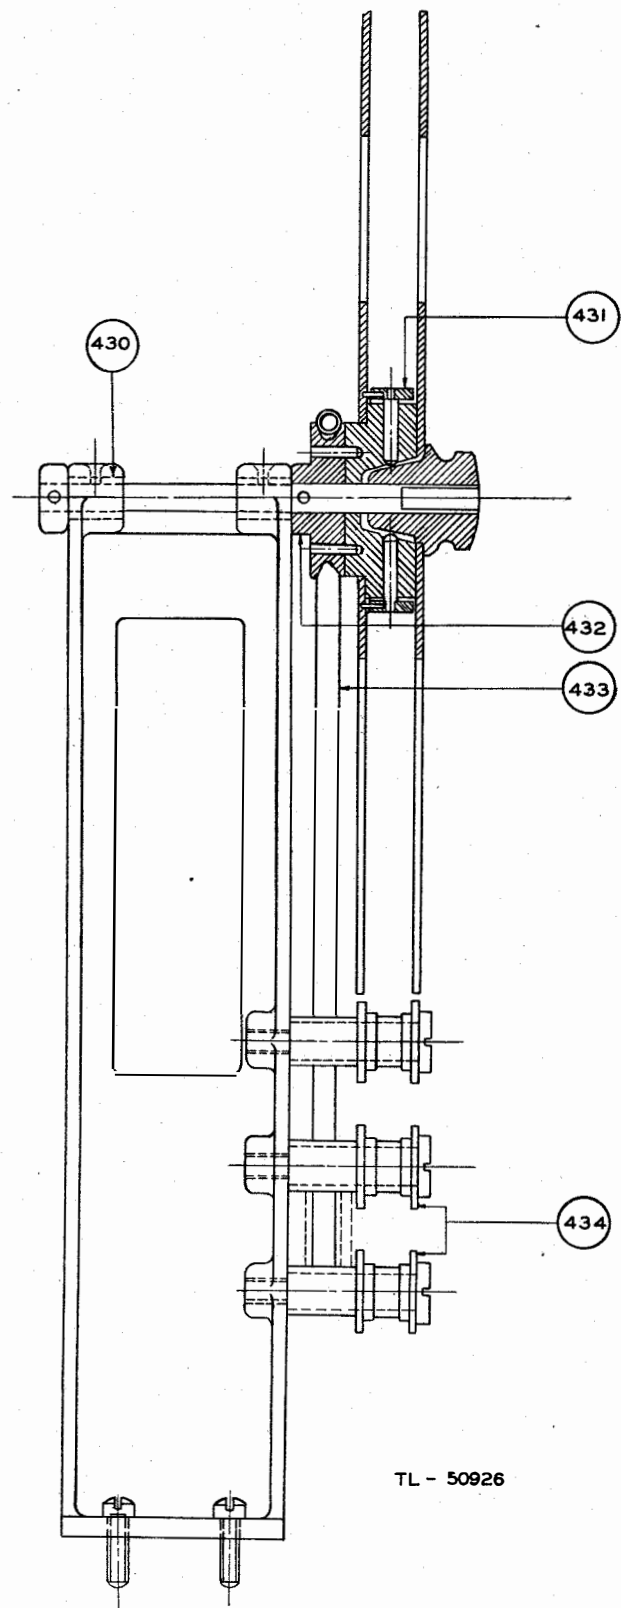

Figure 84. Tape puller rewinder reel attachment, side view.
c. **Pressure Roller (418).** Pack the pressure roller bearing (429) lightly with a non-fluid grease after every few weeks of continuous operation. Either Grease, Lubricating, Special, Specification AXS-637, or Grease, Teletypewriter, KS-7471, Signal Corps stock No. 6G-650, 1 pound container, may be used. In some localities Grease, Teletypewriter, KS-7471, is available in 4-ounce tubes (Signal Corps stock No. 4T97116). To reach this bearing, take out the pressure roller shaft (428), and remove the pressure roller. After packing the bearing with grease, replace the pressure roller and the shaft.
d. **Rewinder Reel Attachment, Type 4-FA (fig. 84)** Put an occasional drop of Oil, Engine, SAE 10, U. S. Army Specification 2-104B, in each oil hole of the two oilite bearings (430) at the top of the rewinder bracket.